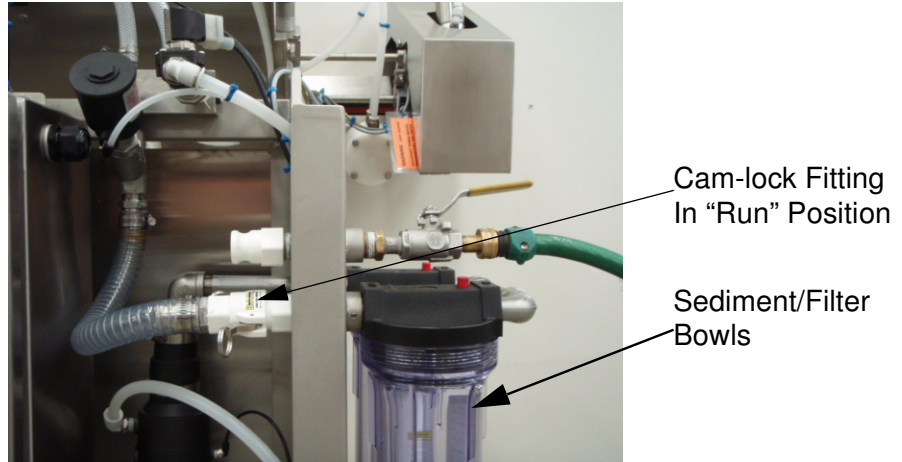
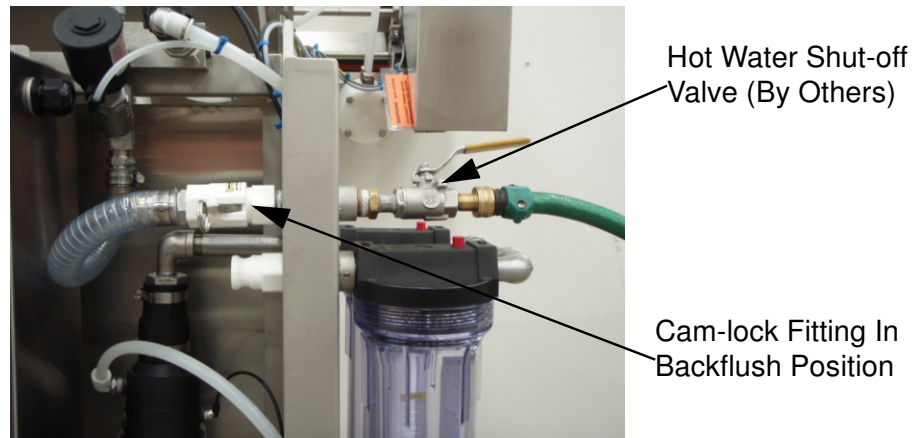

Figure 9-2. Style B Normal "Run" Configuration
Figure 9-3. Style B Backflush Configuration
2. Move the position of the cam-lock fitting from the sediment/filter bowl, to the hot water connection (See Figure 9-2 and Figure 9-3).
9. Return the cam-lock fitting to its normal position, connected to the sediment/filer bowls (See Figure 9-2).